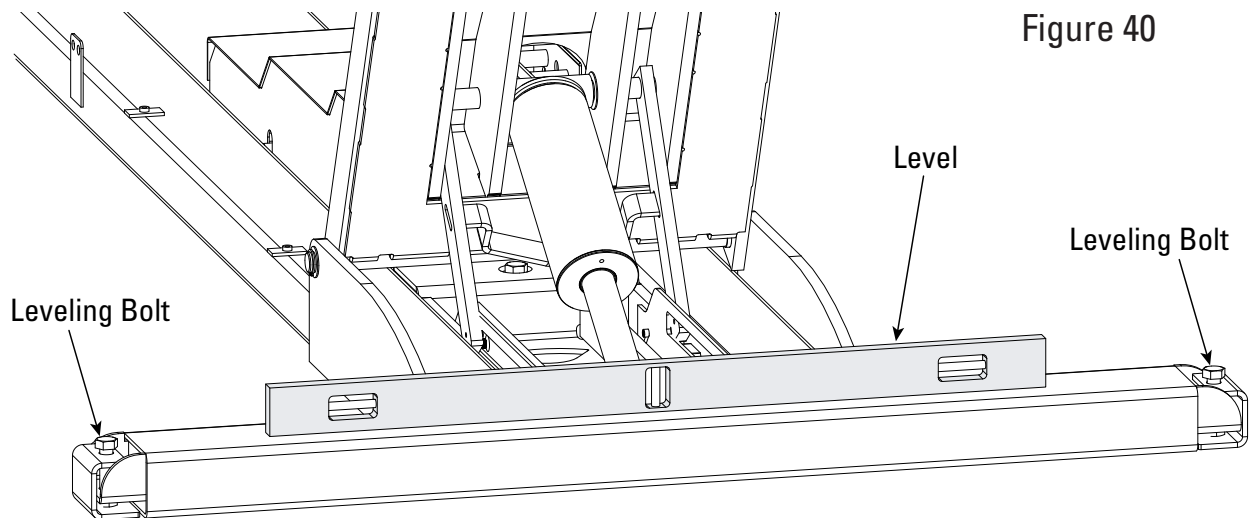

Figure 40
3. Place level across front stabilizer bar and adjust left and right leveling bolts until front bar is level, Figure 40.